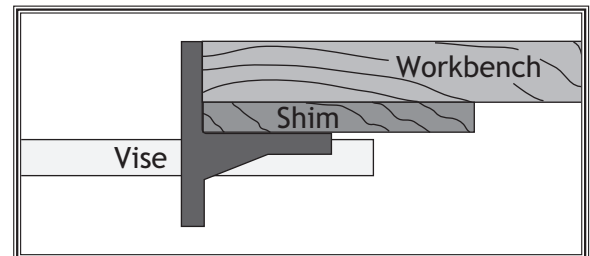

Figure 2. Shim placed between workbench and vise for workbenches under 21/4".
**Note:** If the workbench is less than 21/4" thick, use a piece of scrap wood (Figure 2) between the vise and workbench as a shim. Cut the shim to the necessary thickness so the vise does not protrude above the workbench after mounting.